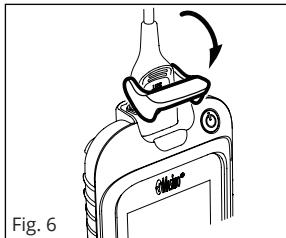

Fig. 6
- Push the connector cover closed until a tactile or audible click of connection is heard. (see Fig. 6)